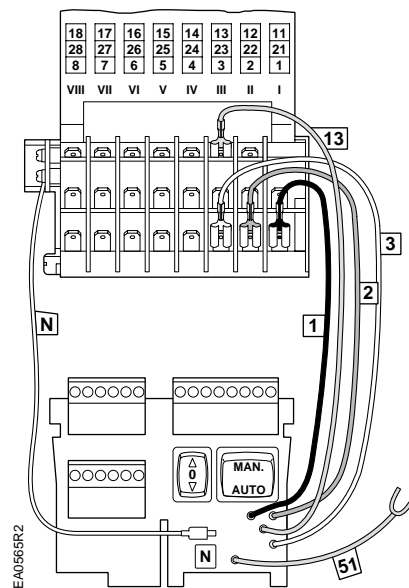

Figure 26.
8. See *Figure 26* and make the following connections to the actuator: